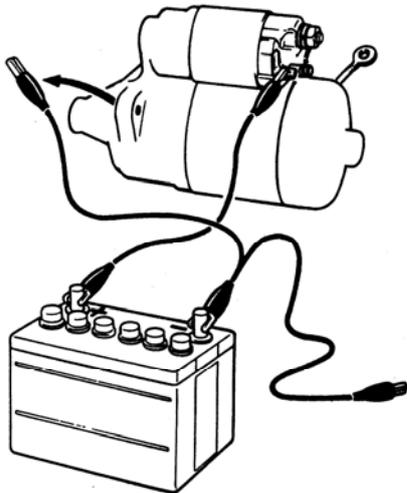

Fig.9-38
3) Check plunger return (Fig.9-38)